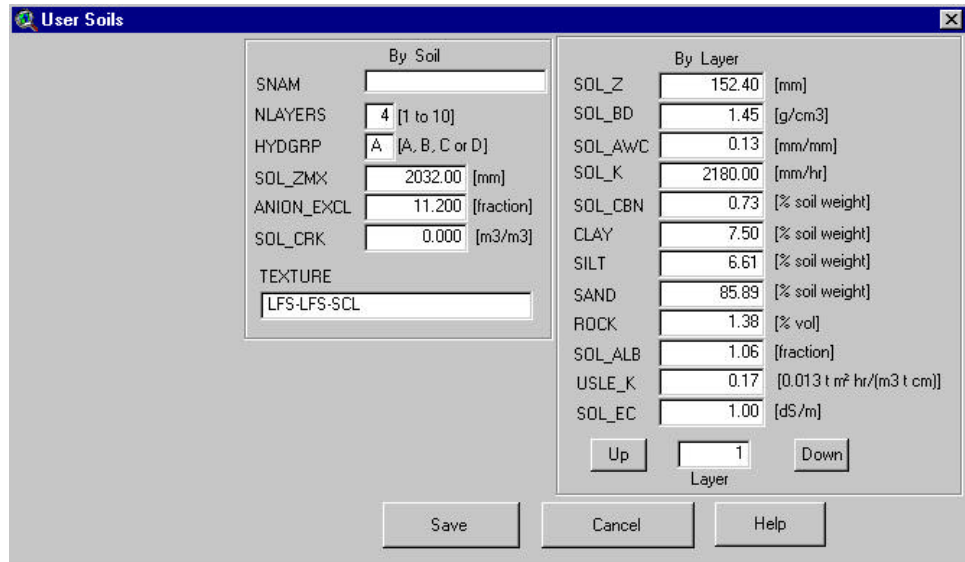

Figure 14.12
- c. A modified dialog box will appear with all the data fields filled (copied from the previously selected soil data) except the soil name (Figure 14.12).